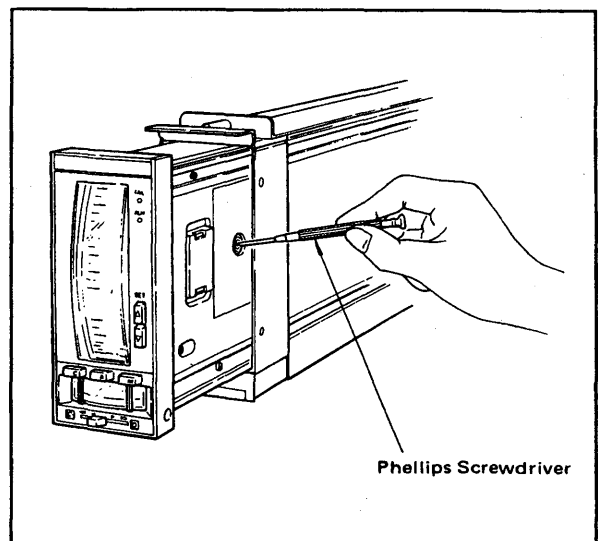

Figure 6-2-2. Zero Adjustment for Set Value Indicator.
- (2) Adjust using the same procedure as described in steps (2) thru (6) for the process variable indicator (6-2-1). Figure 6-2-2 shows zero point adjustment for set value indicator.